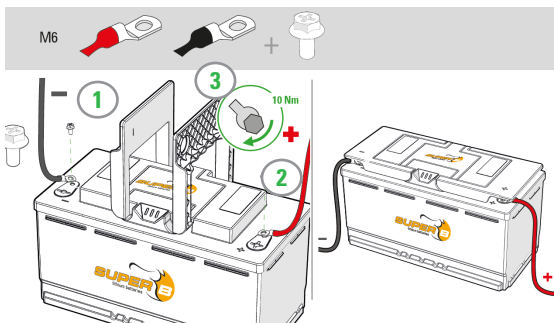

Figure 12. Connecting accessoires to the terminals.
1. Connect the plus of the power cable of the small consumer to the X2 (+) terminal of the Li-ion battery (Figure 12) . Use the included M6 bolt.
2. Connect the minus of the power cable of the small consumer to the X1 (-) terminal of the Li-ion battery (Figure 12). Use the included M6 bolt.